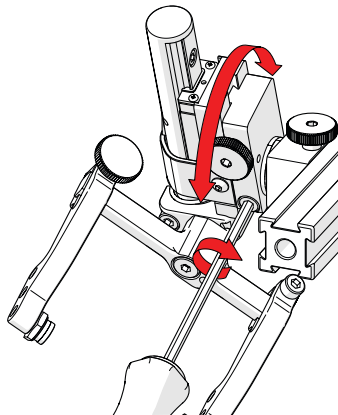

Fig. 118 - Rotate to position
4. Tighten the longitudinal adjustment screw (*Fig. 118*).